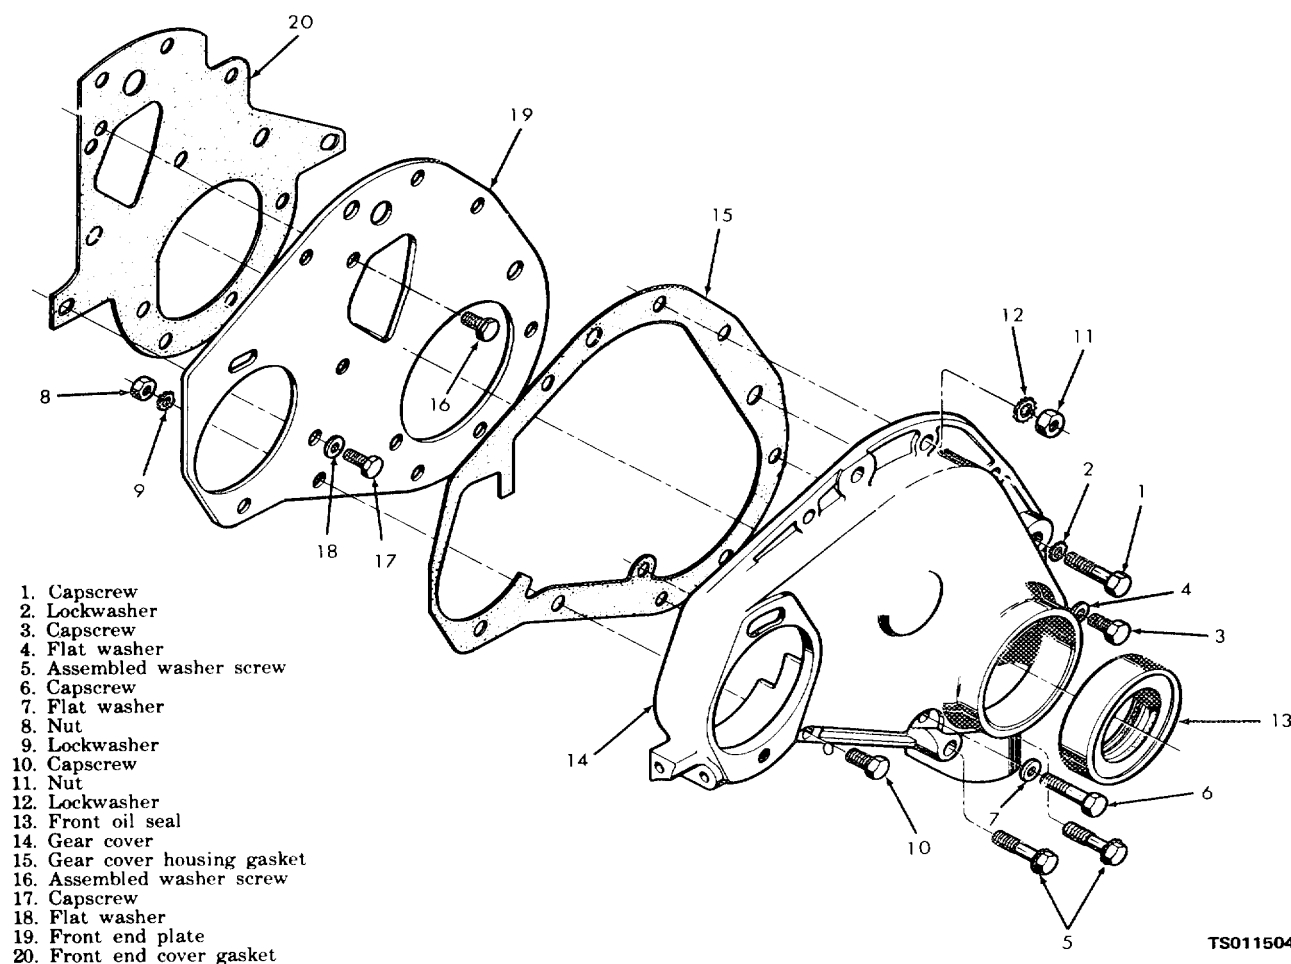

Figure 4-8. Gear cover and front end plate, exploded view.
(4) Remove the capscrews (1, 3, 6, and 10, fig. 4-8), assembled washer screws (5), nuts (8 and 11), lockwashers (2, 9, and 12), and copper washers (4 and 7) that secure the gear cover (14) to the engine block; remove the gear cover and gear cover housing gasket (15) from the front end plate (19).
(1) Refer to figure 4-8, items 1 through 15, and install the gear cover.